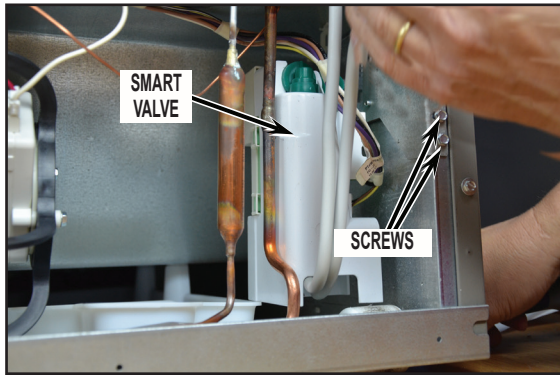

FIGURE 4
1. To remove the smart valve, remove the screws securing the valve to the machine compartment base. See *Figure 4*.